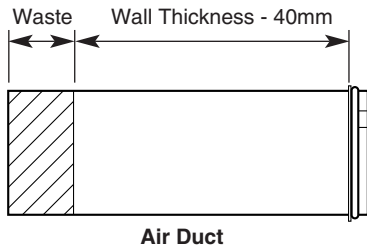

Fig. 27
4. Measure the same amount from the flange end of the **Air Duct** and cut the waste off the plain end (Fig. 27).